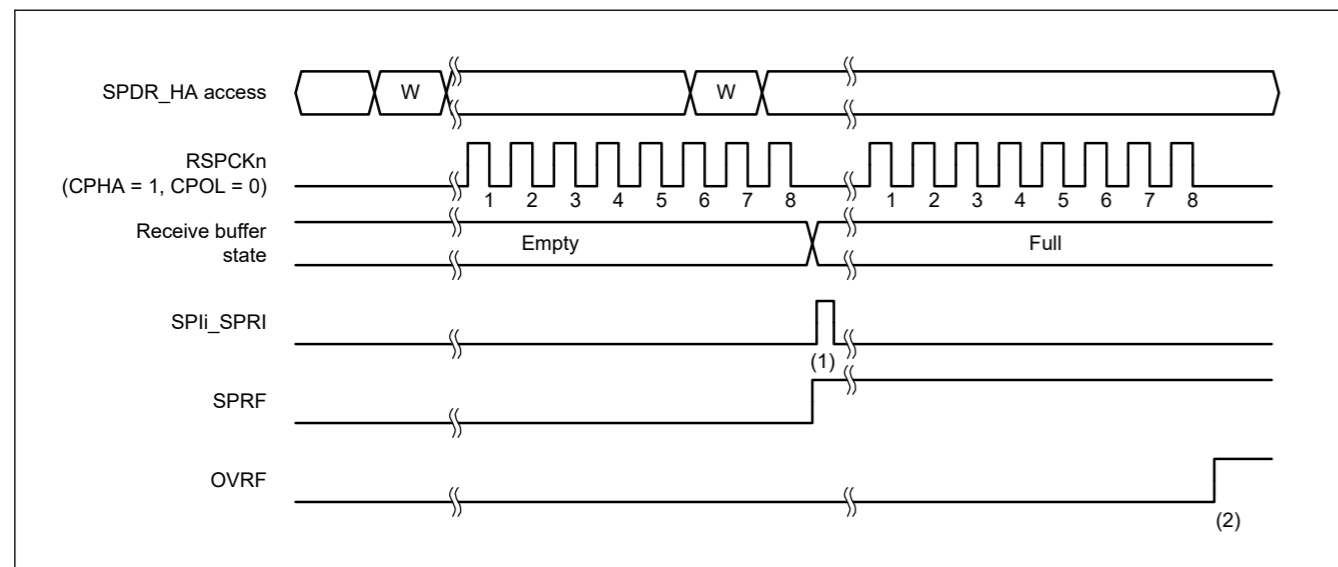

Figure 27.24 Operation example when SPCR.TXMD = 0
Figure 27.24 shows an example of operation when the Communications Operating Mode Select bit (SPCR.TXMD) is set to 0. In this example, the SPI performs an 8-bit serial transfer when the SPCMD0.CPHA bit is 1, and the SPCMD0.CPOL bit is 0. The numbers given for RSPCKn in the waveform represent the number of RSPCK cycles, such as the number of transferred bits.
The operation of the flags at timings (1) and (2) in Figure 27.24 is as follows: